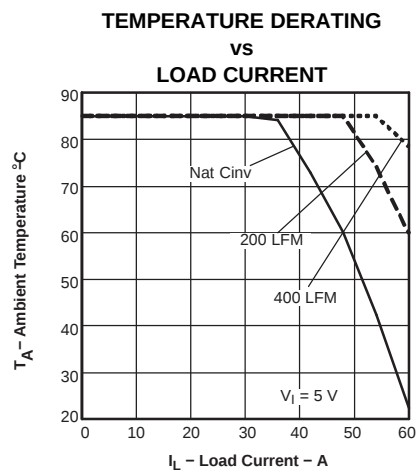

Figure 8. Safe Operating Area
- (2) SOA curves represent the conditions at which internal components are at or below the manufacturer's maximum operating temperatures. Derating limits apply to modules soldered directly to a 4 inches × 4 inches double-sided PCB with 1 oz. copper. Applies to Figure 8.